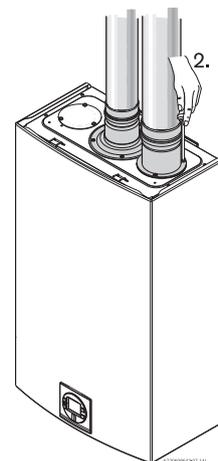

Fig. 17 Inlet connection
- ▶ Attach the combustion air inlet accessory to the top of the unit Fig. 17 (position 2) using the 3 screws and gasket provided, and install 3" air intake pipe over the accessory.